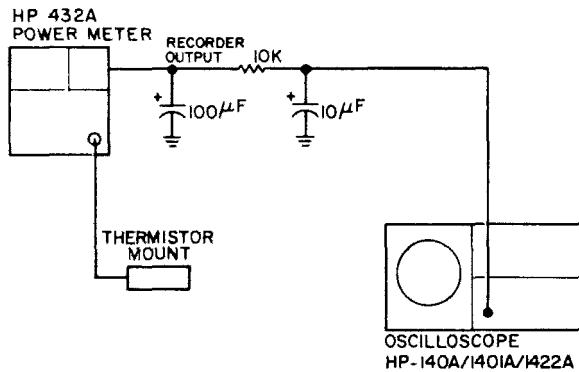

Figure 5-2. Zero Carryover Test Setup
| Filter Network                 |                                                                                                                      | See Figure 5-2                                |
e. Connect 141A through filtering network to rear of 432A as shown in Figure 5-2. Set 141A controls as follows: